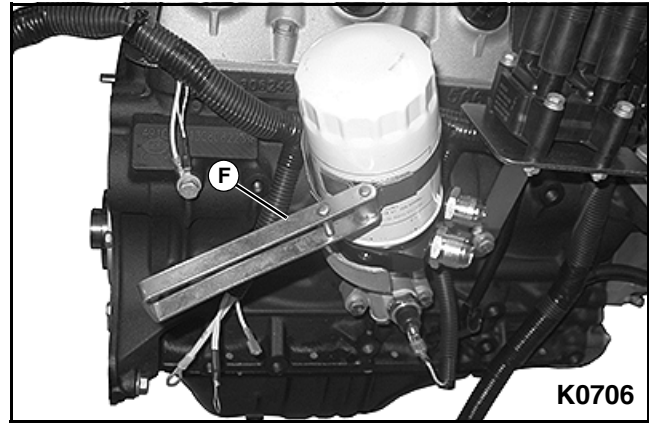

Figure 5-7
- Lightly screw in the new oil filter by hand until you feel resistance. Using the oil filter wrench (F), tighten the filter an additional 3/4 turn, 25 N•m (18.4 ft.lbs.). **See Figure 5-7.**